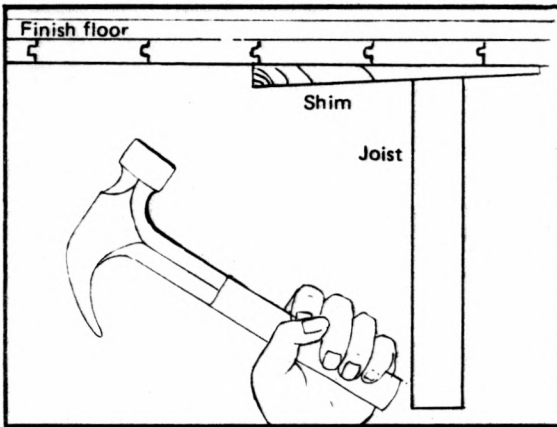

FIG. 10-5 REPAIRING SQUEAKING FLOORING BY SHIMMING
e. Wood shims: (see Figure 10-5)
(1) Tap a thin wooden shim between the subfloor and floor joist if it squeaks
(2) Be careful the shim does not raise the flooring.